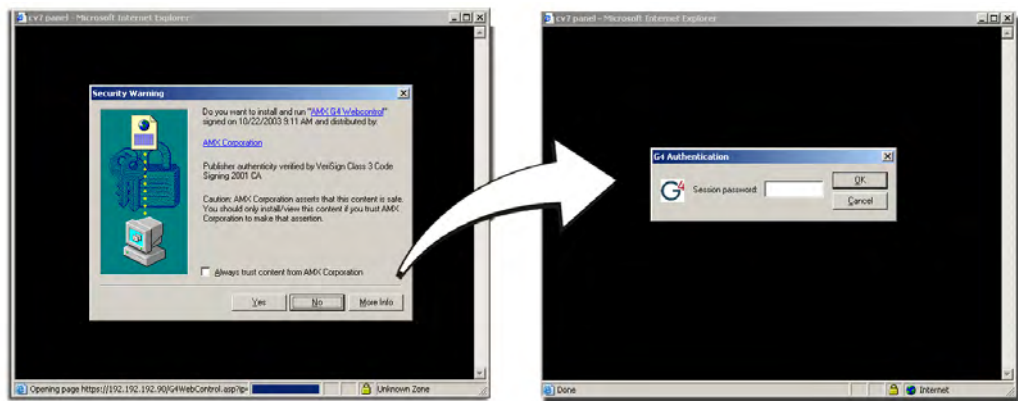

FIG. 75 WebControl VNC installation and Password entry screens
- Click on the G4 panel name link associated with the target panel. A secondary web browser window appears on the screen (FIG. 75).
12. Enter the WebControl session password into the Session *Password* field (FIG. 75). *This password was previously entered into the Web Control Password field within the G4 Web Control page on the panel.*